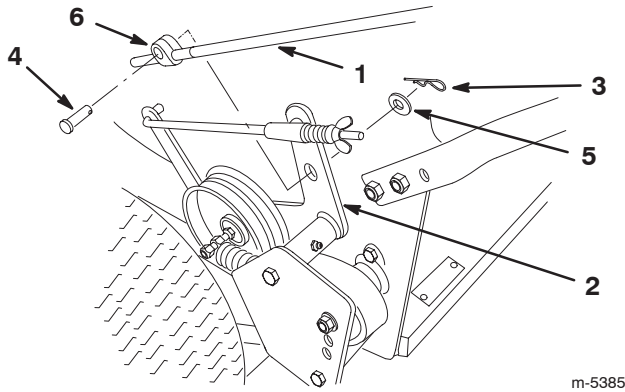

Figure 6
1. Thread the rod fittings an equal distance onto each control rod (Fig. 6).
2. Install the rod fittings with clevis pins into the holes in the idler brackets (Fig. 6). Secure the rod fittings with washers and hairpin cottes (Fig. 6).
Note: Install each rod fitting so that the clevis pin is above the control rod as shown in Figure 6.